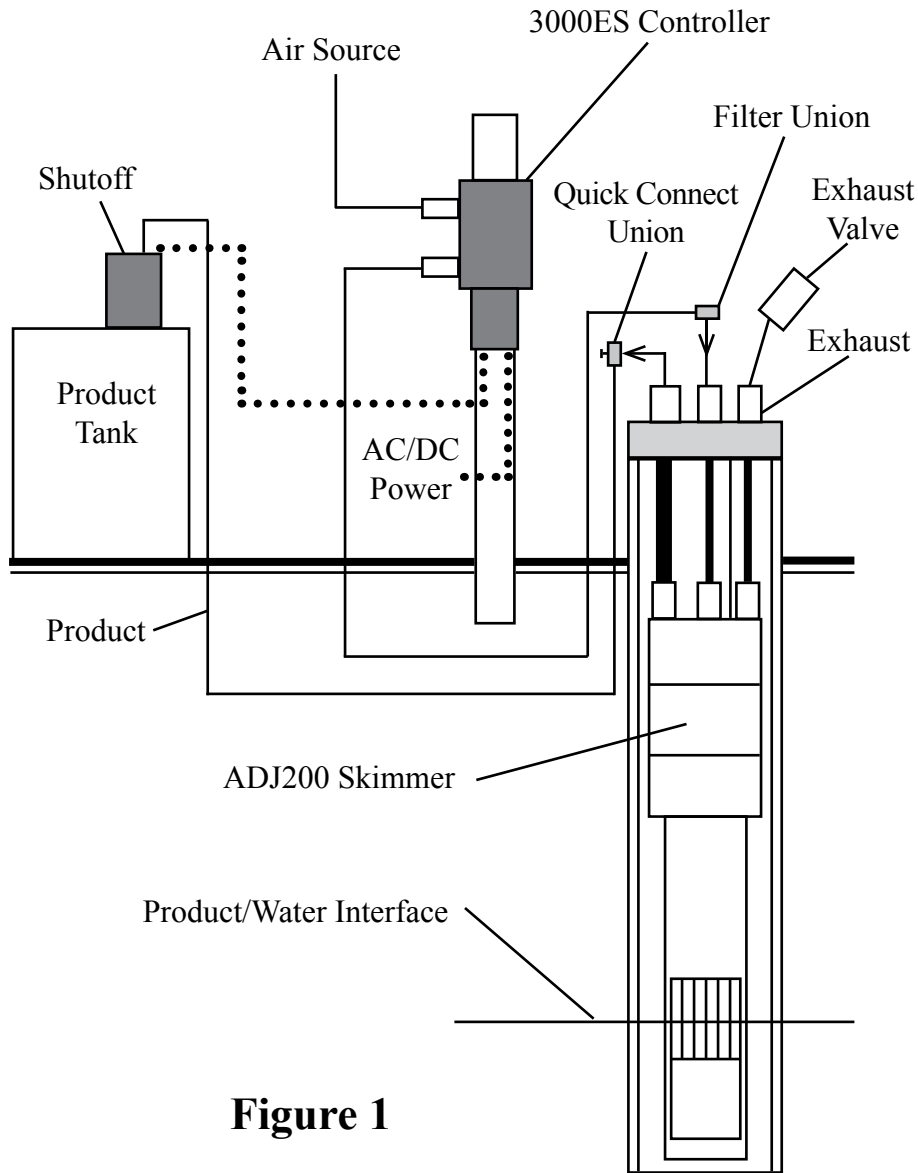
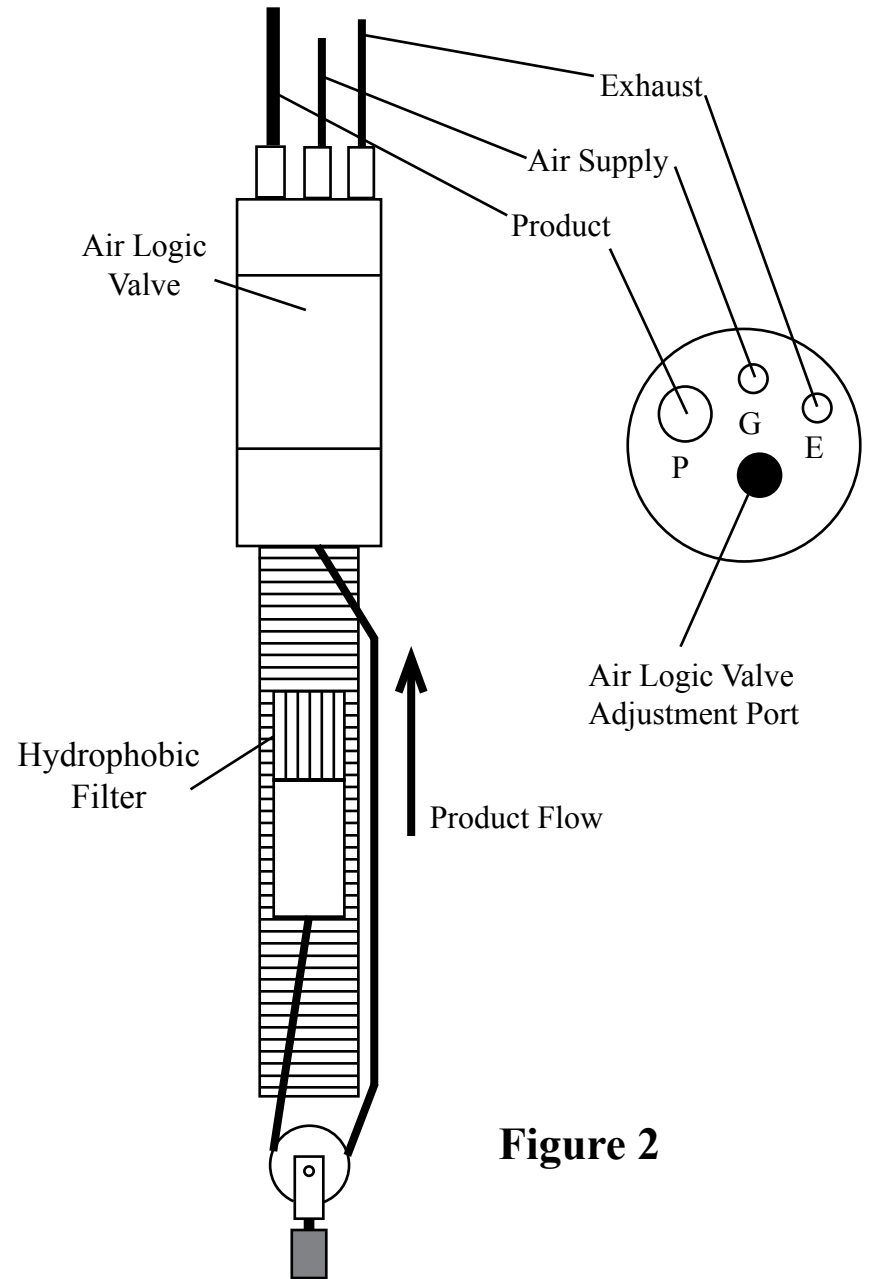

Figure 1
Figure 2
The system (Figure 1) relates to floating hydrocarbon recovery in wells two inches in diameter and larger. This system includes: an intrinsically safe ADJ200 pneumatic Smart Skimmer (Figure 2) which removes only the product to a sheen down to 200 feet deep; and a three function programmable Controller Model 3000ES which operates the skimmer intermittently, records run time, and has a high level tank shutoff.
STEP 7. Position the skimmer and well cap on the ground near the well. Cut a length of 1/4" OD air supply tubing to cover the distance from the top of the well down to water/product interface, plus 5 feet. **NOTE:** If the skimmer is over 70 feet deep, use 3/8" OD air supply tubing in stead of 1/4" OD tubing. Slide enough tubing through the well cap and attach the end of the tubing to the top of the skimmer tube fitting labeled "G" (Figure 2). If the product thickness is greater than 1 foot, position the skimmer's "Black Reference Line" on skimmer well screen 1 foot below top of product. If the product thickness is less than 1 foot, position the skimmer's "Black Reference Line" on skimmer well screen at the water/product interface.
STEP 8. Cut a length of 5/16" OD product tubing same length as the air supply line. Install 5/16" OD product tubing through the well cap tube fitting labeled "P" (Figure 2). Slide enough tubing through the well cap and attach the end of the tubing to the top of the skimmer tube fitting labeled "P". **CAUTION:** Do not kink the tubing.